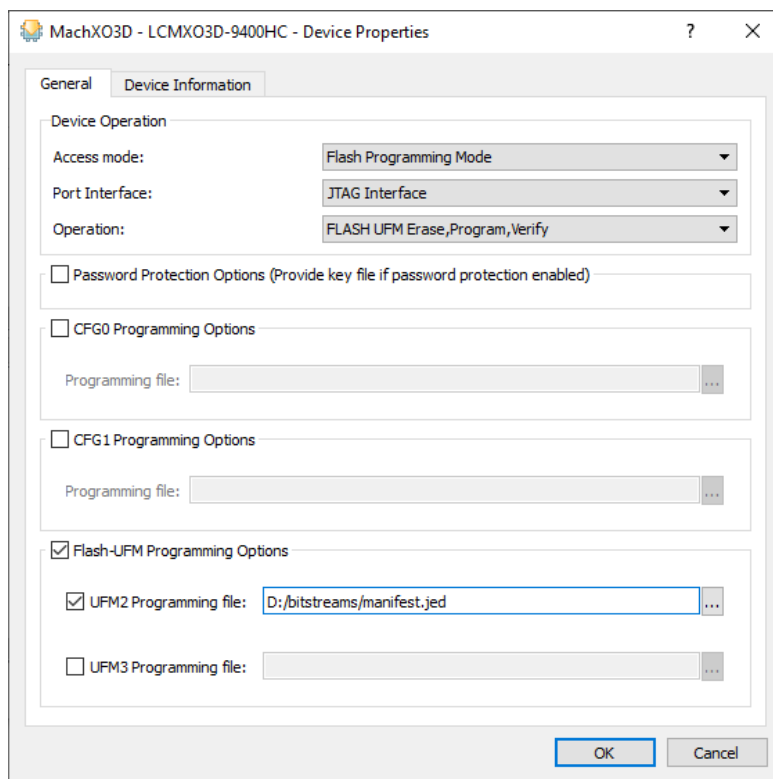

Figure 4.12. Device Operation
3. Configure operation for Device 1 as shown in Figure 4.12.